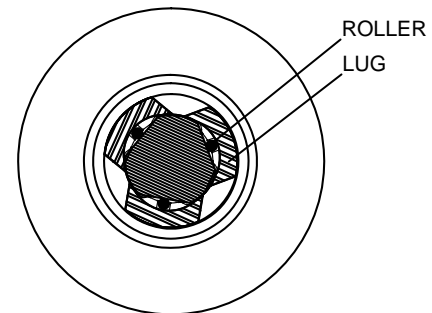

Fig. 3
Note: Ensure that the lugs are aligned over the rollers as in Fig. 3.
4. Slide chuck body away from flange about 1/2" until outer synchronizer ring comes loose; remove the ring (Fig. 3). DO NOT REMOVE CHUCK BODY YET – internal parts will fall.